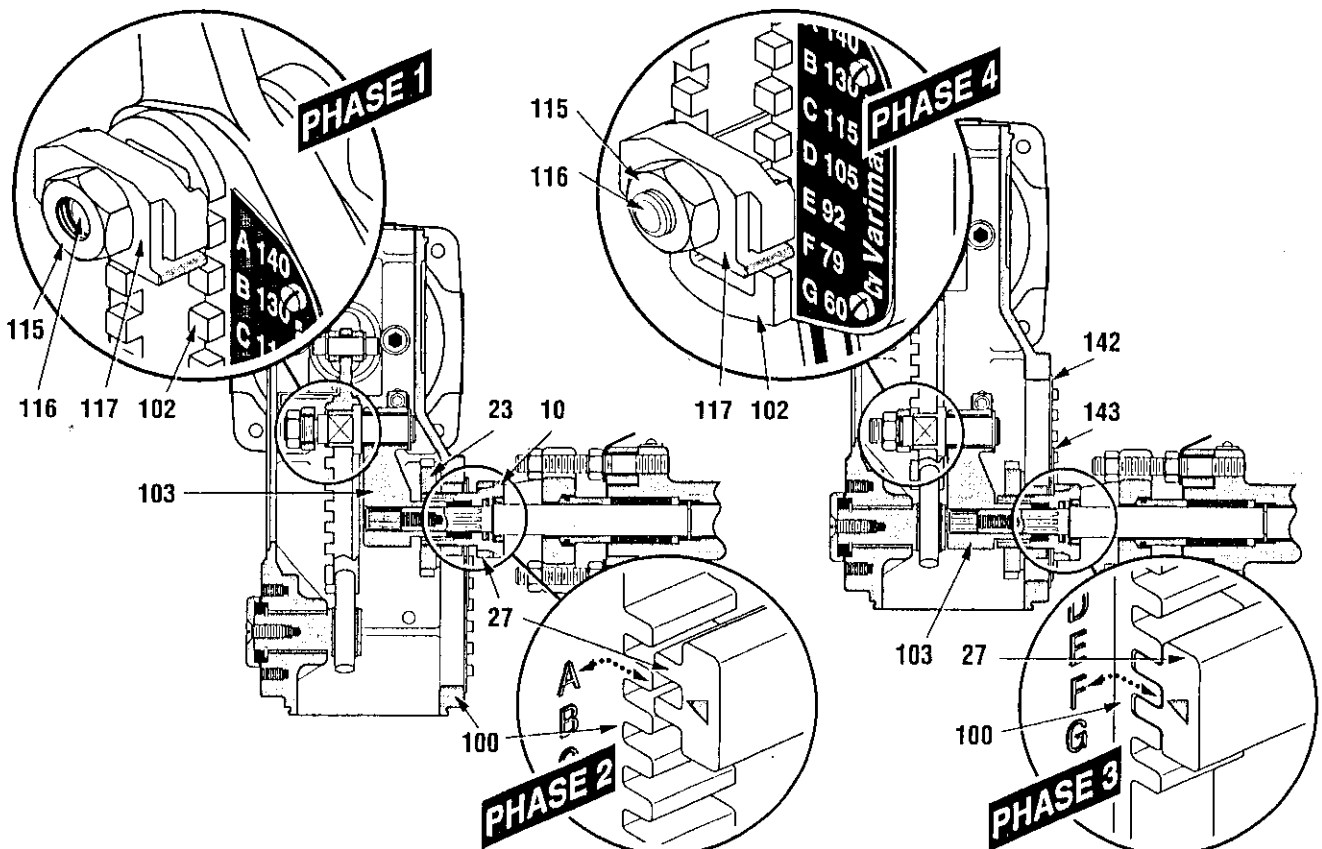

Figure 6: Valve Cv Adjustment
10. C_V Adjustment (figures 6, 21, 22 & 23)
A. Connect a temporary air supply to the actuator inlet port located on the diaphragm case (125) and apply enough air pressure so the indicator dot (139) will move to an intermediate position corresponding to 25% of valve opening.
- C. Loosen and unscrew the clamping nut (115) sufficiently to disengage the clamping plate (117) from notches of adjustment lever (102). Leave in place clamping nut (115) on the driving link spindle (116). (See Figure 6, Step 1).
- D. Using an adjustable pin spanner, loosen and unscrew the yoke nut (23) enough to disengage the actuator case (100) from the notches of the yoke connection plate (27); leave the yoke nut (23) on the yoke (10), (see figure 6- phase 2).
- E. For ATA Nos 5, 7 and 9, If the Cv adjustment involves crossing of the "D" position, rotate the two rear covers (142 & 143) 180 degrees around the yoke (10).
- F. Position actuator case (100) so that the notch marked with appropriate letter (selected C_V) corresponds to the arrow engraved on the yoke connection plate (27) (See Figure 6, Step 3).
- G. Place the two rear covers (142 & 143) so that to close the actuator case (100), then tighten yoke nut (23) by means of the adjustable hook spanner.
- H. Place clamping plate (117) to adjustment lever (102) so that the index of the clamping plate corresponds to the appropriate letter (selected C_V). Tighten clamping nut (115) on the driving link spindle (116). (See Figure 6, Step 4).
- I. Replace top and bottom covers (111) and the front